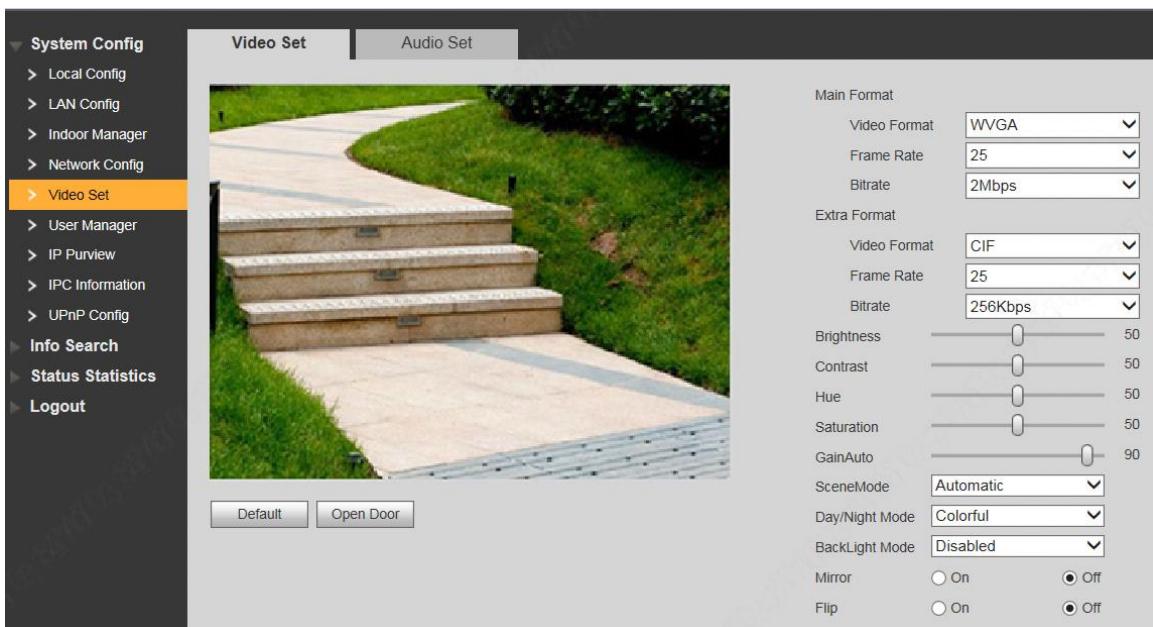

Figure 7-39
- The system displays “Video Set” interface, as shown in Figure 7-39. Click “Open Door”, and VTO is unlocked.